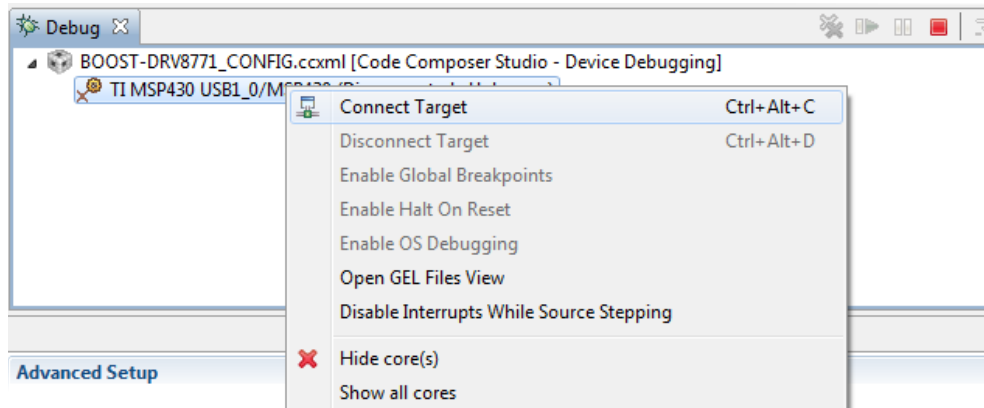

Figure 8. Connect Target Selection
- In the Debug Menu, right click on the **TI MSP430 USB1_0** connection and select **Connect Target** (Figure 8)